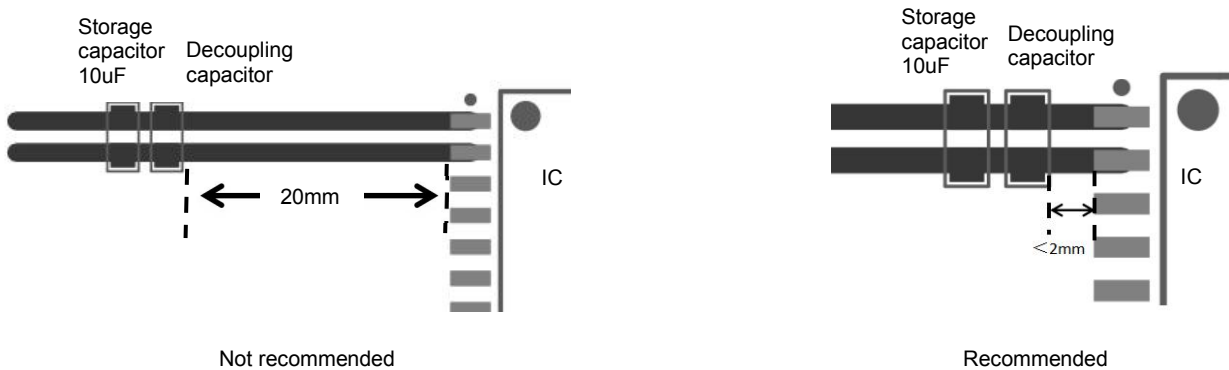

Figure 15-1
1. The decoupling capacitors and energy storage capacitor of VCC and GND1, VISO and GND2 should be placed as close the chip pins as possible to the chip pins to reduce loop area and parasitic inductance of PCB traces. General control should be within 2mm. The decoupling capacitor is placed close the chip, and the energy storage capacitor is placed outside. As shown in Figure15-1.